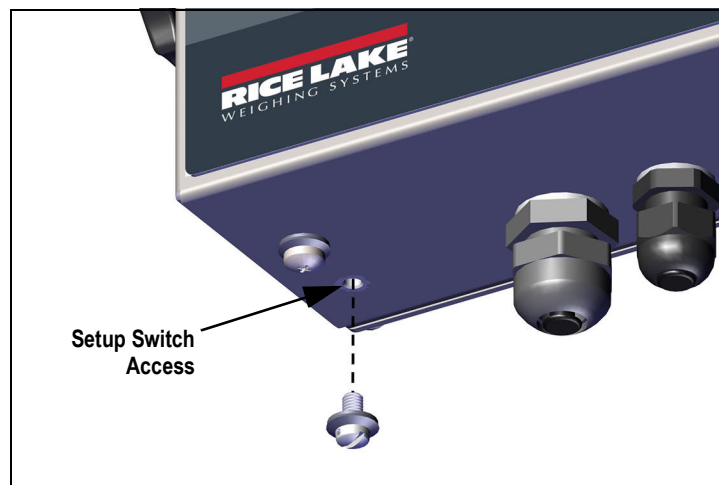

Figure 4-1. Setup Switch Access
1. Access setup mode by pressing the setup switch (Figure 4-1 on page 25). **CONF** displays.